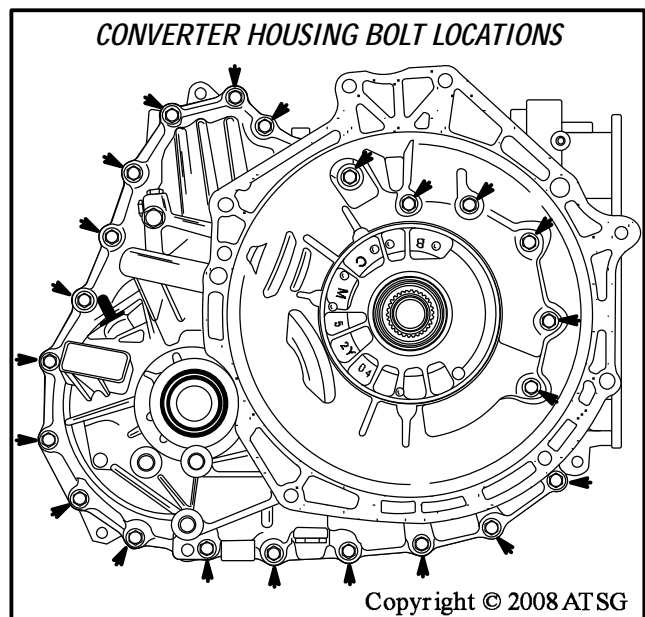

Figure 228
38. Exact bolt locations are shown in Figure 228.